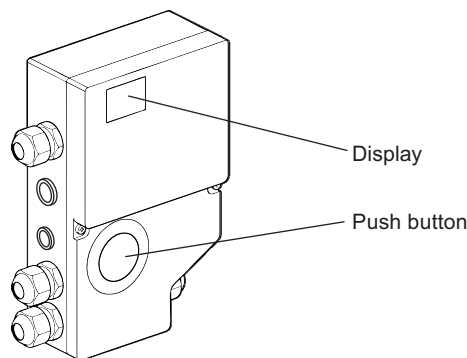

Fig. 21
2. Switch on the electrical supply and the display (see Fig. 21) will show 'A1' and start to countdown from eighty to zero. During this countdown the PCB does a self-diagnosis of all the sensors and pumps. If the collector temperature is between 10 and 130°C the drain back unit pump will run for a short period to run a test program, after which the system is ready for use.
5.4 DISPLAY - Fig.21
When both pumps are operating, a flashing dot will be visible in the right hand corner of the display (Fig. 21). If only the cylinder pump is running, a flashing dot will be visible in the middle of the display.
The display (see Fig. 21) will display the solar cylinder temperature (10 - 70°C) for 4 seconds followed by the operating mode (oN or oF) for 2 seconds, after which the sequence will be continually repeated.